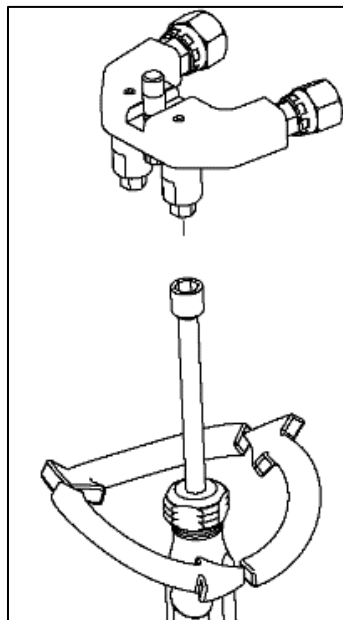

Figure 5: Closing Manual Valves
2. Ensure the **Manual Valves** are **CLOSED** by turning them to the full clockwise position using supplied 5/16" nut driver. (See Figure 5).